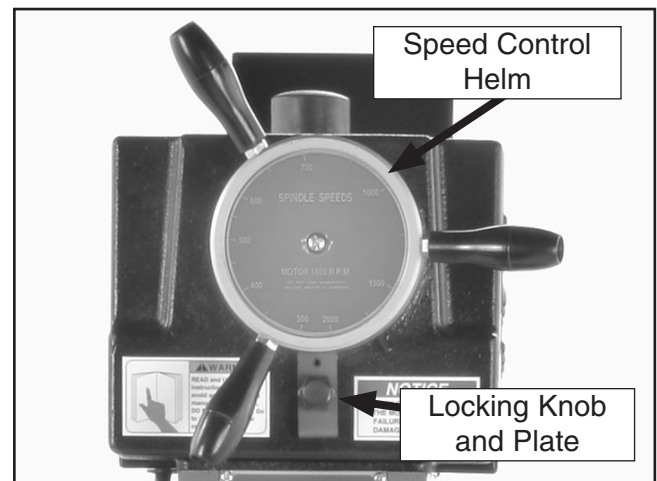

Figure 14. Speed control handles and helm.
2. Loosen the speed control locking knob (see **Figure 14**).